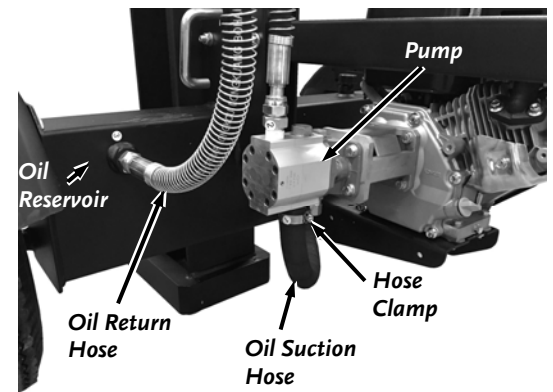

Figure 60
- c. Disconnect the Oil Return Hose from the Oil Reservoir using a 27mm Wrench (**Figure 60**). Position the Oil Return Hose into the waste fluid container
- a. Position the Waste Fluid Container under the Oil Suction Hose (**Figure 60**).